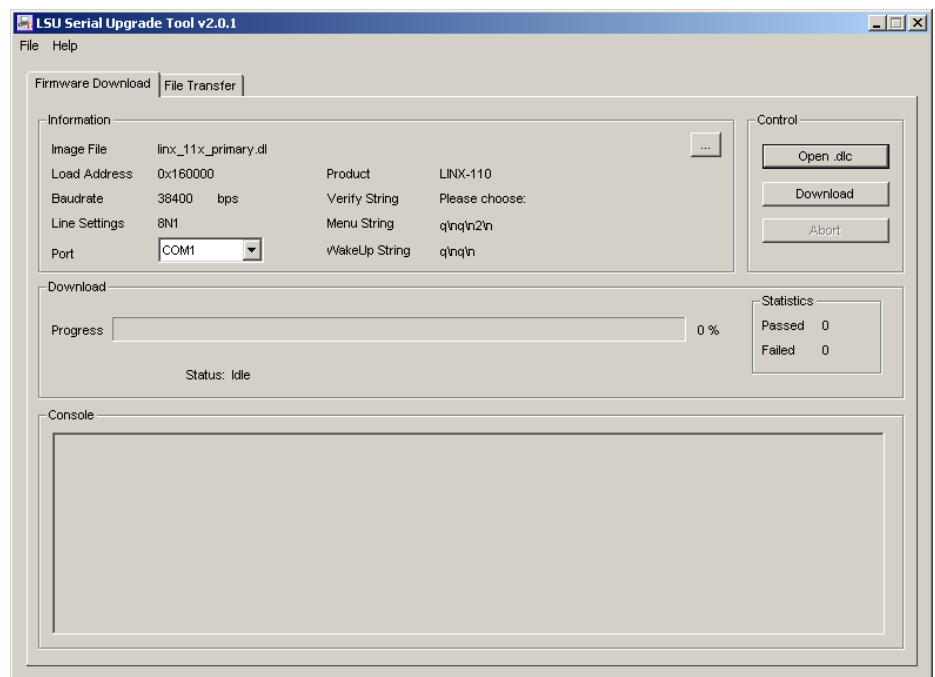

Figure 235: LSU Serial Upgrade Tool in Idle Mode.
1. Double click on the *.dlc file that comes with the new firmware package. This should start the LSU Tool and load the firmware image referenced in the dlc file. Please note that the dlc file and the dl file must be stored in the same folder. The start window of the LSU tool is shown in Figure 235.